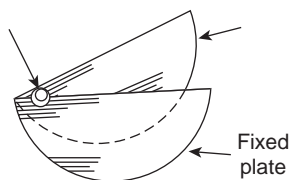

Figure 8.15
1. **Variable air capacitors.** These usually consist of two sets of metal plates (such as aluminium), one fixed, the other variable. The set of moving plates rotate on a spindle as shown by the end view of Fig. 8.15.